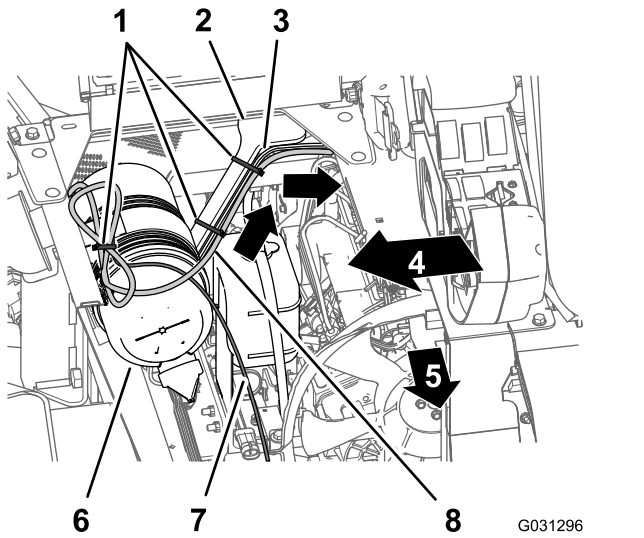

Figure 162
1. Route the 220 cm (86-5/8 inches) branch of the electrical harness for the navigation system across the seat-box angle and down along the left support for the engine shroud (Figure 162).
2. Secure the harness to the engine-shroud support with cable ties (Figure 162).